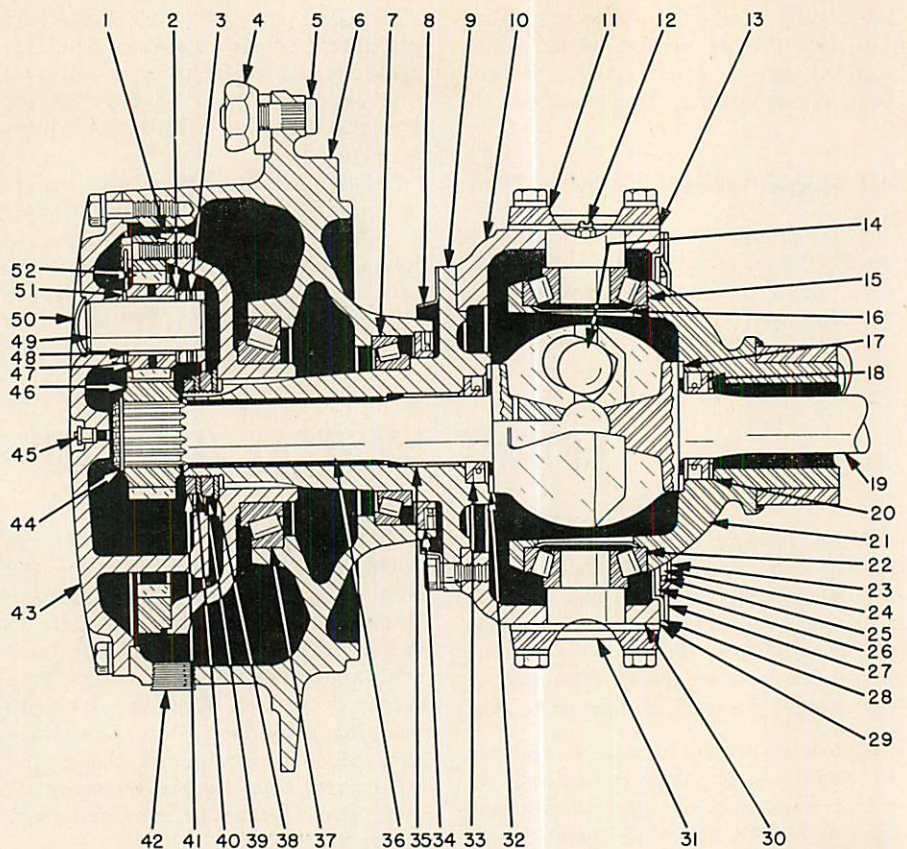

Fig. O18 — Cross-sectional view showing components of front drive axle outer end.
spindle from internal gear hub. Lift internal gear hub and bearing from wheel hub and be careful not to allow bearing to drop from hub of internal gear hub. Complete removal of spindle from wheel hub. All bearings and seals, thrust washers and dirt shield can now be removed and renewed if necessary. Bushing and oil seal in inner bore of spindle (items 33 and 35—Fig. O18) can also be renewed at this time.
**33.** Use Fig. O18 as a reference and reassemble wheel hub unit as follows: Install bearing cups (7 and 37) in hub with smallest diameters toward inside of hub. Place inner bearing in inner bearing cup, then install oil seal (34) with lip facing bearing. Bump seal into bore until it bottoms. Place dirt shield (8) on hub so flat side is toward flange of spindle, then using caution not to damage seal, install spindle in wheel hub. Hold spin-
Adjust inner nut as required until a pull of 33-38 pounds on a spring scale attached to a wheel stud is required to keep hub in motion. See Fig. O19. Install lockwasher (40—Fig. O18) and outer nut (41). Tighten outer nut and recheck hub rolling torque. When adjustment is correct,